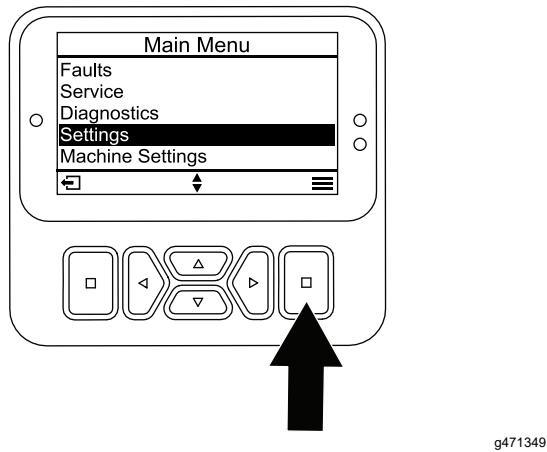

Figure 22
- From the MAIN MENU, scroll down to the SETTINGS menu and press the select button (Figure 22).